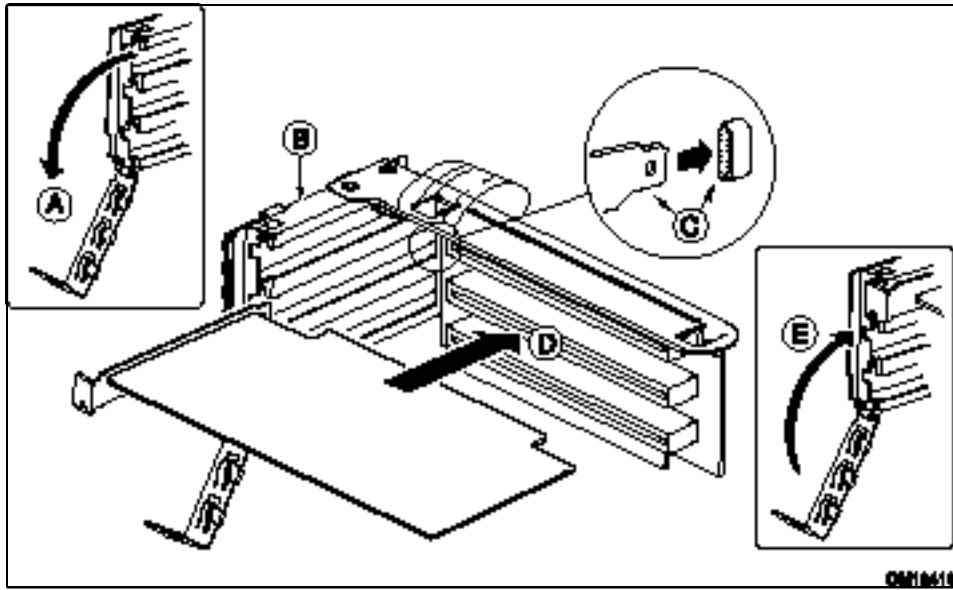

Figure 17. Installing a Low-Profile PCI Card in a Riser Card
1. Open the retainer clip (Figure 17, A) and remove the desired filler panel from the rear retention bracket (B) of the riser card.
2. Insert the edge connector of the PCI card into the desired slot of the riser card (D) while inserting the end of the card's metal bracket in opening (C).
4. Close the retainer clip (E). Ensure the clip is latched.